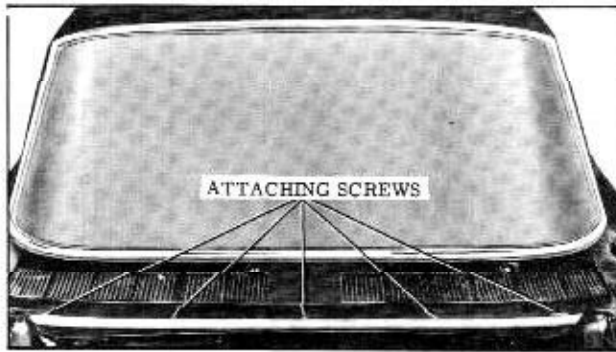

Fig. 15-15 Air Intake Grille
3. Raise hood, remove screws securing grille to shroud. (Fig. 15-15)
5. To install, apply medium-bodied sealer around screw attaching holes and grille retaining slots. (Fig. 15-15)